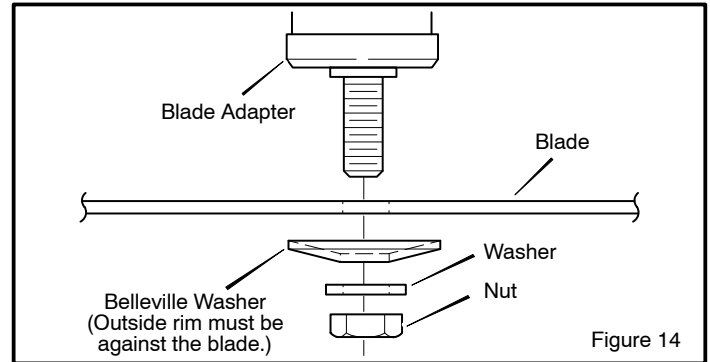

Figure 14
8. Fasten the **blade** with the original washers and **nut**. Make sure the outside rim of the **Belleville washer** is against the **blade** (Figure 14).